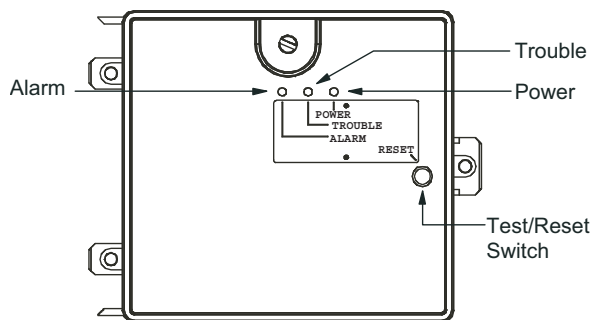

Fig. 61 — Controller Assembly
- The contacts on the controller's supervisory relay switch positions. (See Fig. 61.)